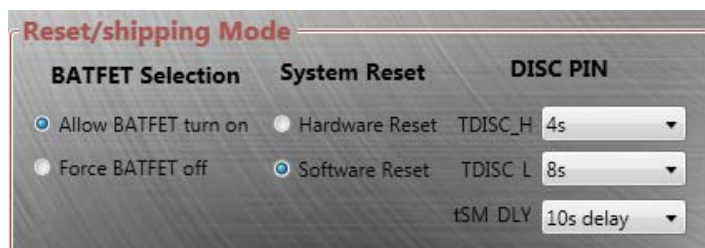

Figure 24: Shipping Mode Control
- Shipping mode control (see Figure 24)